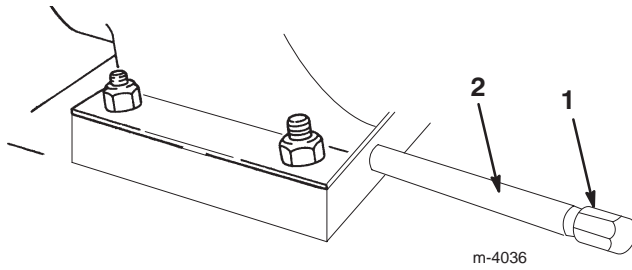

Figure 39
3. Clean the area around the oil drain plug (Fig. 39).